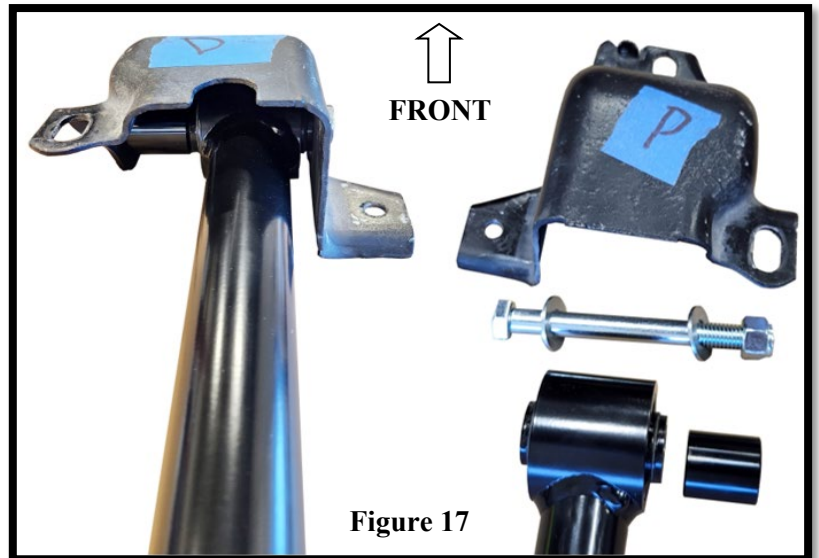

Figure 17
10. Re-using the front leaf spring brackets from the vehicle or the leaf brackets from the QA1 subframe connector kit, bolt the fixed bushing end of the QA1 lower trailing arms to the mounts using one 1.3" wide black anodized spacer on the outboard side of the mount. **(Figure 17)** This connection can only be made with the leaf brackets removed from the car. Secure using 1/2"x 5" bolt with two washers and one Nyloc nut per side. This connection should be final torqued at ride height to 75 lb. ft.
12. With the lower trailing arm attached to the factory front leaf spring mounts, reinstall the front leaf spring mounts onto the vehicle using the included new J-nuts (**Figure 17**) and 3/8" hardware. Torque to 30 lb. ft.